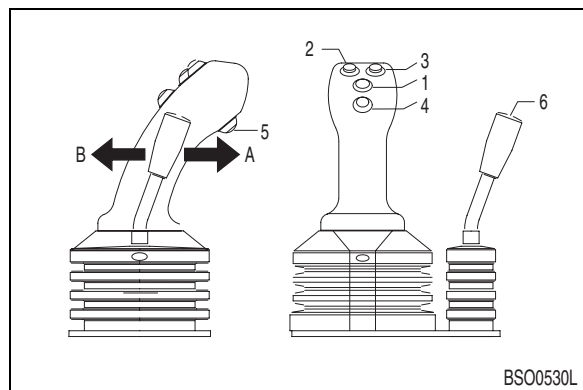

Figure 68
- When the log forks control lever (6, Figure 68) is pushed forward the log forks are allowed to open.
- When the log forks control lever (6, Figure 68) is pulled back the log forks are allowed to close.
When this switch is pressed at forward traveling while "KD" (5, Figure 68) switch is pressed, machine can travel forward. When machine is travelled, it can convert forward and reverse travel without pressing "KD" (5, Figure 68) switch.
When this switch is pressed at reverse traveling while "KD" (5, Figure 68) switch is pressed, machine can travel reverse. When machine is travelled, it can convert forward and reverse travel without pressing "KD" (5, Figure 68) switch.